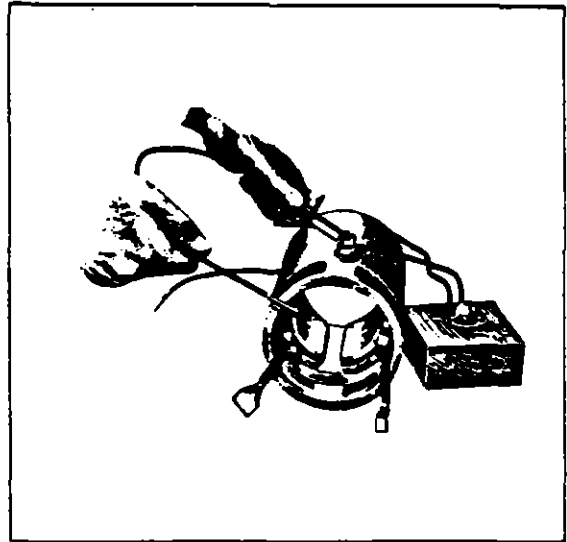

Figure 11-45. Testing Motor Fields for Grounds
a. Check the field coils for grounds (Refer to Figure 11-45) by placing one test probe on the frame and the other on the starter terminal. Be sure the brushes are not accidentally touching the frame. If the lamp lights, the fields are grounded. Repair or replace.